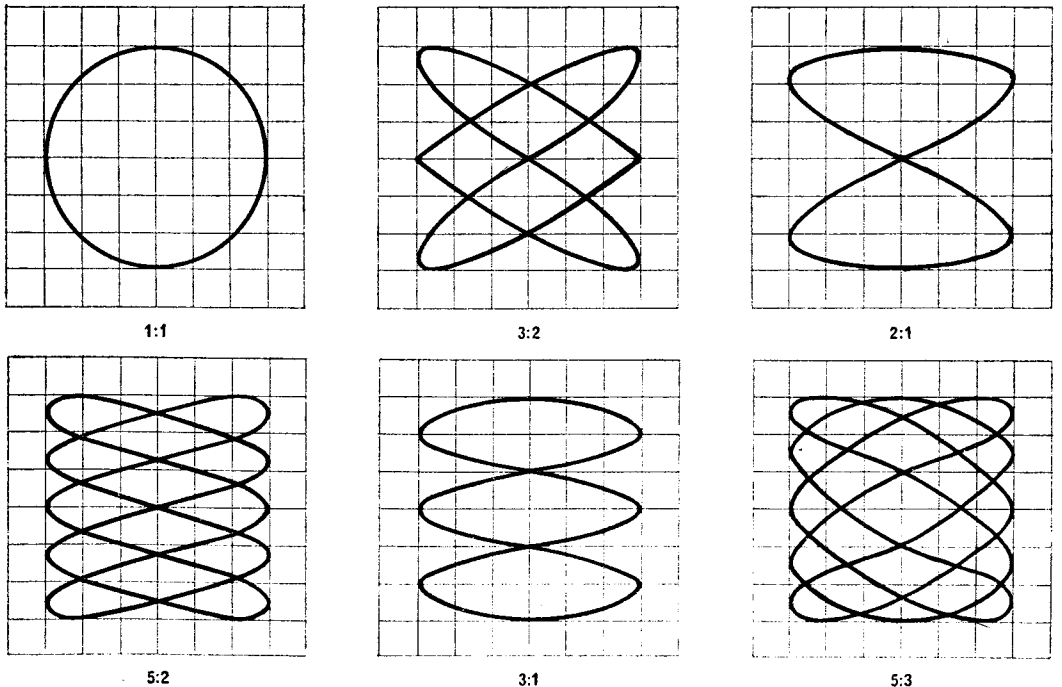

Fig. 9. Frequency comparison X : Y
23. **Frequency measurement.** Two waveforms of different frequencies can also be compared by their Lissajous patterns. The oscilloscope controls must be adjusted separately for each signal as in para. 22 and figures 7b and 7c. This preliminary adjustment for equal amplitude of deflection is most important as the pattern would otherwise appear distorted. The shapes obtained for common frequency relationships are shown in figure 9; the method is limited to frequency ratios of about 10 : 1 because of the difficulty of counting the number of loops on the display. A very common use of the method is for the adjustment of the output frequency of a 400Hz inverter by comparison with a 800Hz tuning fork to obtain the 'figure of eight' pattern shown in figure 9. The ratio of any two frequencies can be found from the formula: